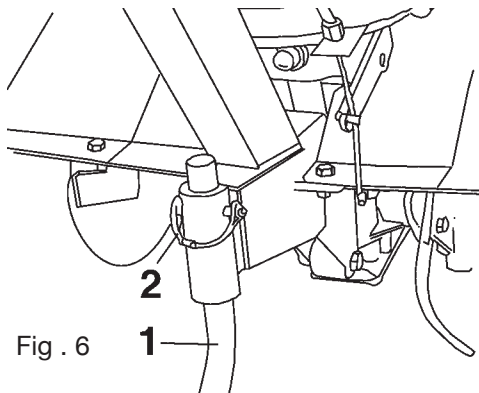

Fig . 6
Fit spur (1) using the pin with spring (2) (fig. 6)